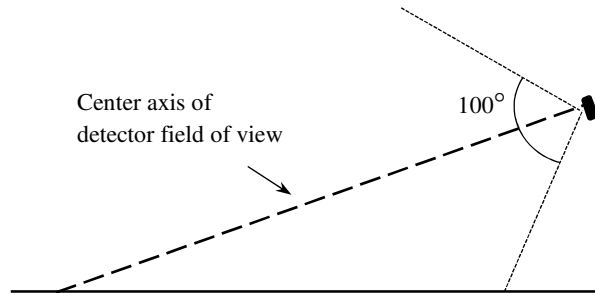
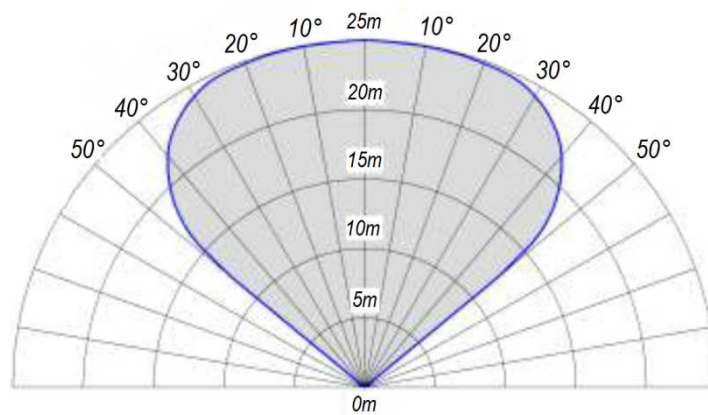

Figure 2. Detector Orientation Relative to Horizon
Figure 3. Cone of Vision of the Detector
- The detector shall be positioned and aimed taking into account sensitivity of the detector and its field of view as a 100 degrees cones to the most probable source of ignition. Figure 2 shows detector orientation during installation. Figure 3 represents the sensitivity area for the detector.